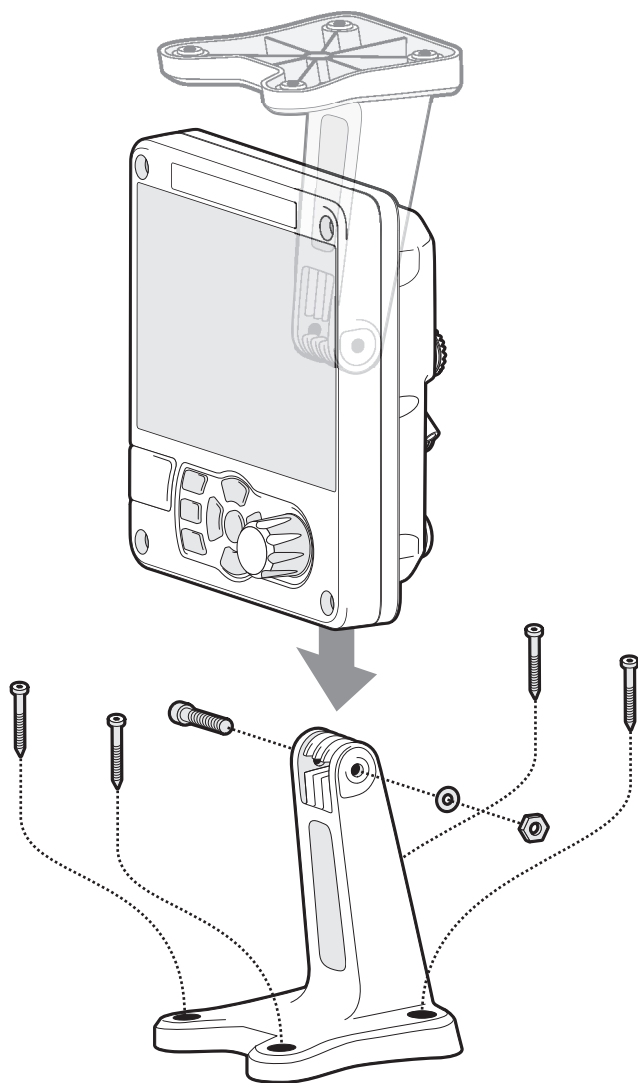

Figure 5 Desk mounting the AIS transceiver
- The AIS transceiver is supplied with four self tapping screws for attachment of the AIS transceiver to a suitable surface using the supplied bracket. Please refer to Figure 5. for guidance.